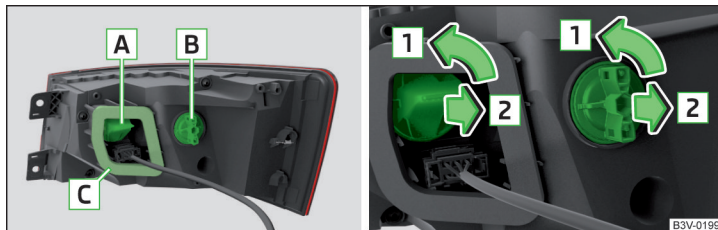

Fig. 266 Tail light / bulb replacement
- Ensure that when inserting the light the wiring harness between the body and the light is not jammed and the seal **C** » Fig. 266 on page 217 is correctly inserted - there is a risk of water ingress and damage to the electrical installation.
- › Turn the holder with the bulb **A** or **B** » Fig. 266 in the direction of the arrow **1**.